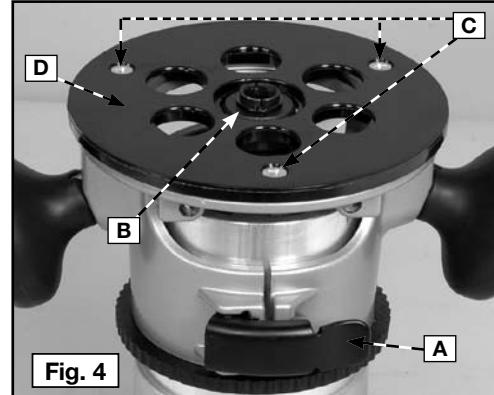

Fig. 4
1. Loosen the sub-base mounting screws (C) Fig. 4 just enough to allow the sub-base (D) to move.
2. Open the clamp (A) Fig. 4 (or screw (A) Fig. 17) and adjust the power unit so that the collet nut (B) Fig. 4 engages the center hole in the sub-base (D). Allow the sub-base to center itself on the collet nut. Close the clamp.
3. Tighten the sub-base mounting screws (C) Fig. 4 securely.